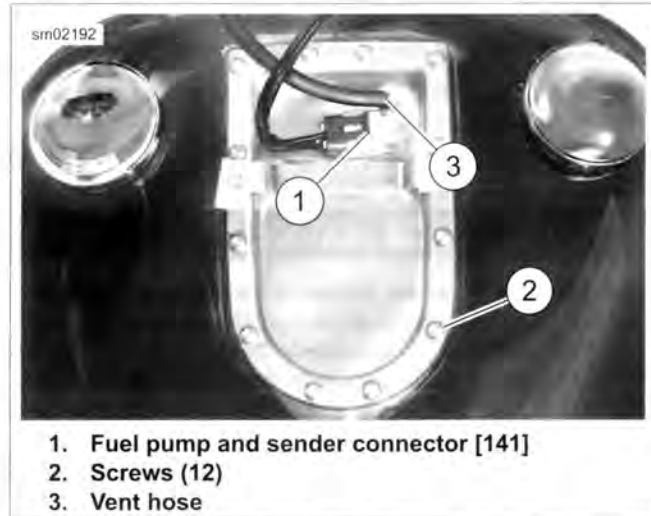

Figure 7-65. Top Plate Screws (Typical)
5. See Figure 7-65. Disconnect fuel pump and sender connector (1) [141].
6. Remove vent hose (3).
7. Remove top plate screws (2) and discard.